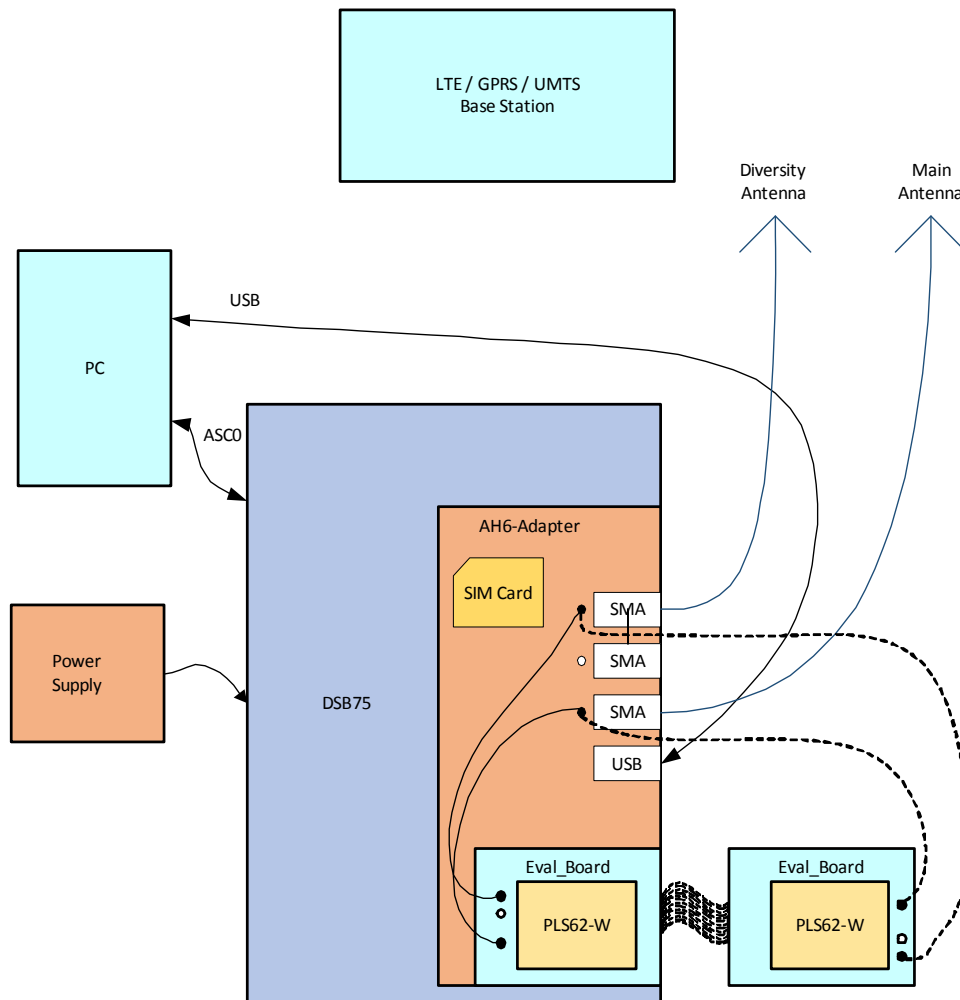

Figure 56: Reference equipment for Type Approval
1. For RF performance tests a mini-SMT/U.FL to SMA adapter with attached 6dB coaxial attenuator is chosen to connect the evaluation module directly to the GSM/UMTS test equipment instead of employing the SMA antenna connectors on the PLS62-W-DSB75 adapter as shown in Figure 56. The following products are recommended: